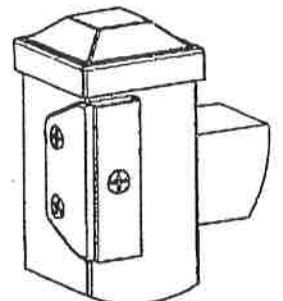

FIGURE 2
Install Upper Bracket using (3) self-drilling flat head screws, as near to the top of the fence post as possible (Fig 2).